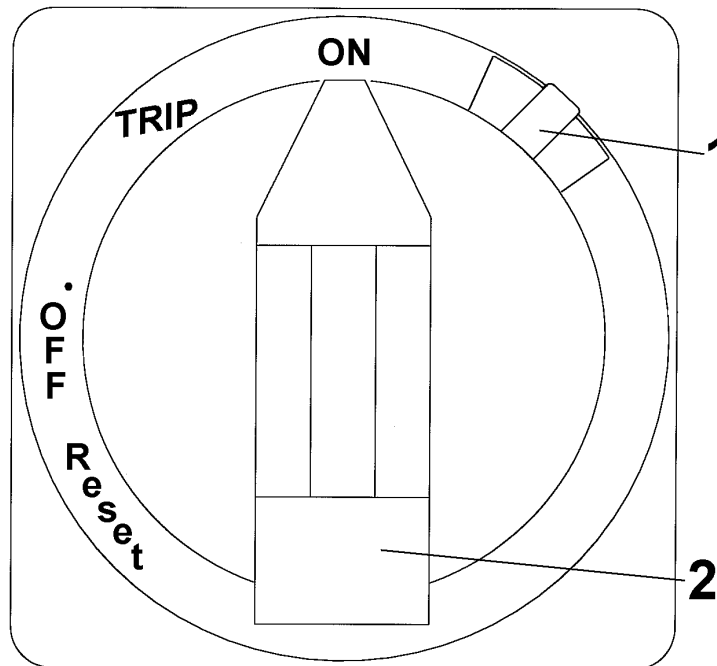

Figure 2. Circuit Breaker.
1. Open the control panel by turning the switch (2) to OFF position. See Figure 2.